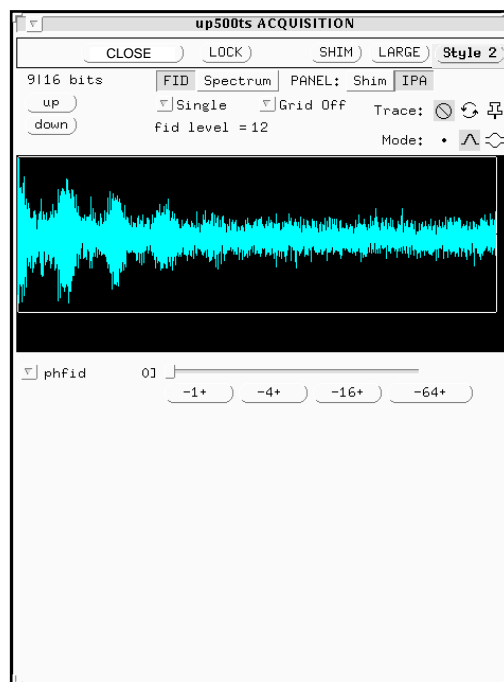

Figure 45. Spectrum Display Window with IPA (acqi Program)
- IPA selects interactive parameter adjustment in which the bottom panel displays up to five slide control and button combinations. Figure 45 shows IPA selected with slide controls and button combinations for the parameter *phfid* on display.